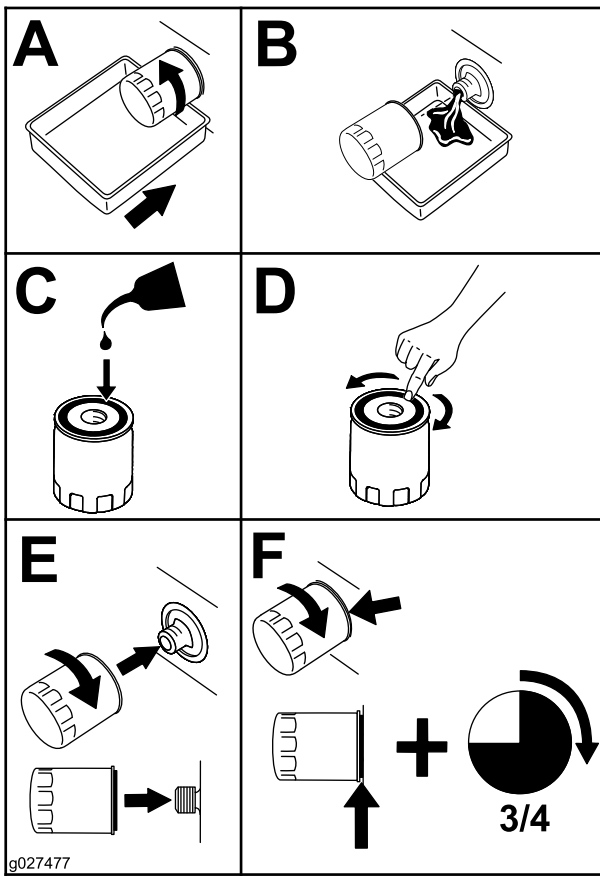

Figure 23
4. Change the engine-oil filter as shown in Figure 23.